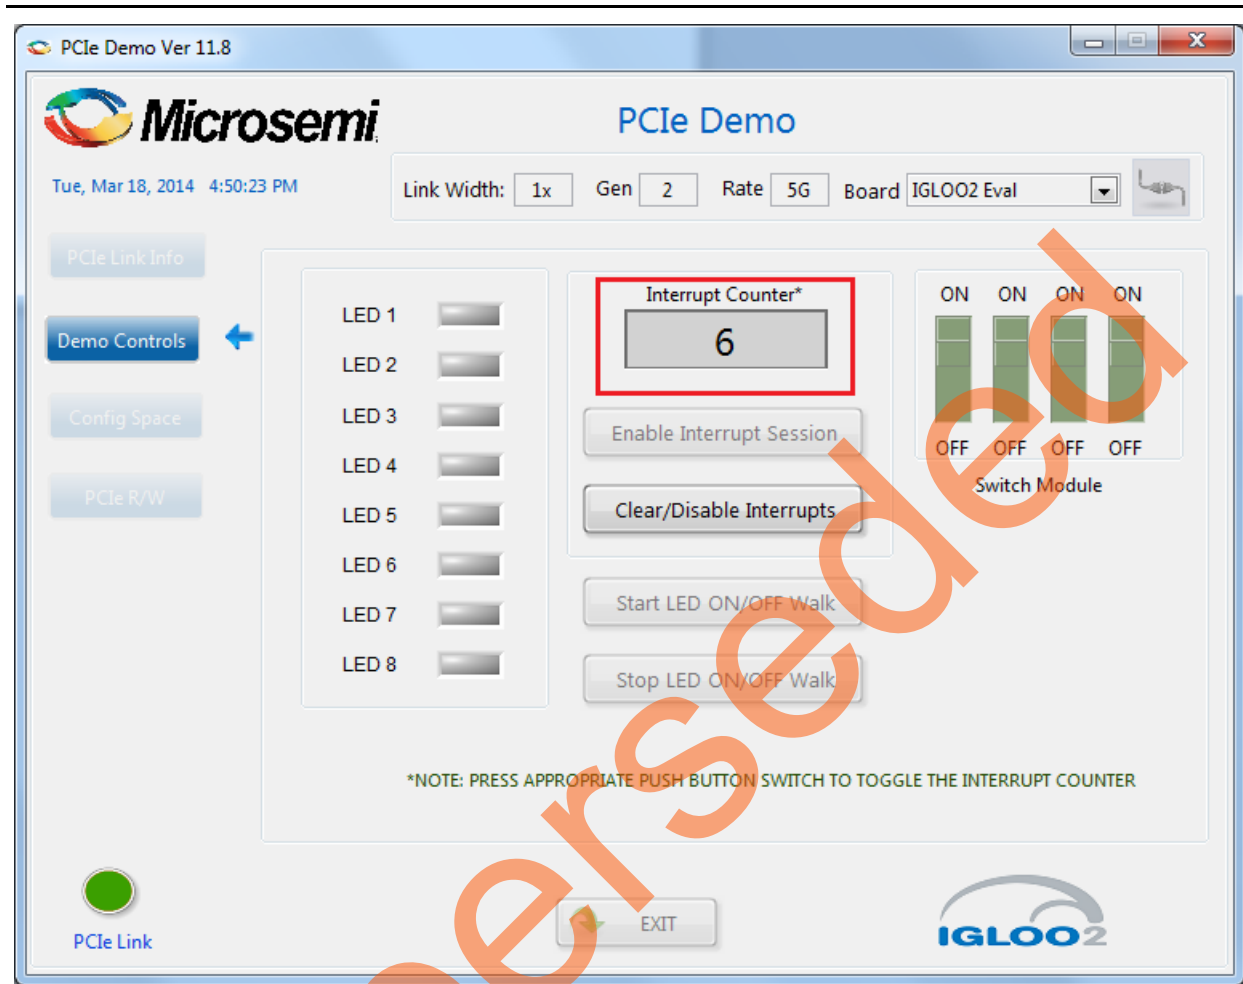

Figure 61 • Interrupt Counter
10. Press the push button **SW4** on the IGLOO2 Evaluation Kit and observe the interrupt count on the **Interrupt Counter** field in the GUI as shown in Figure 61.